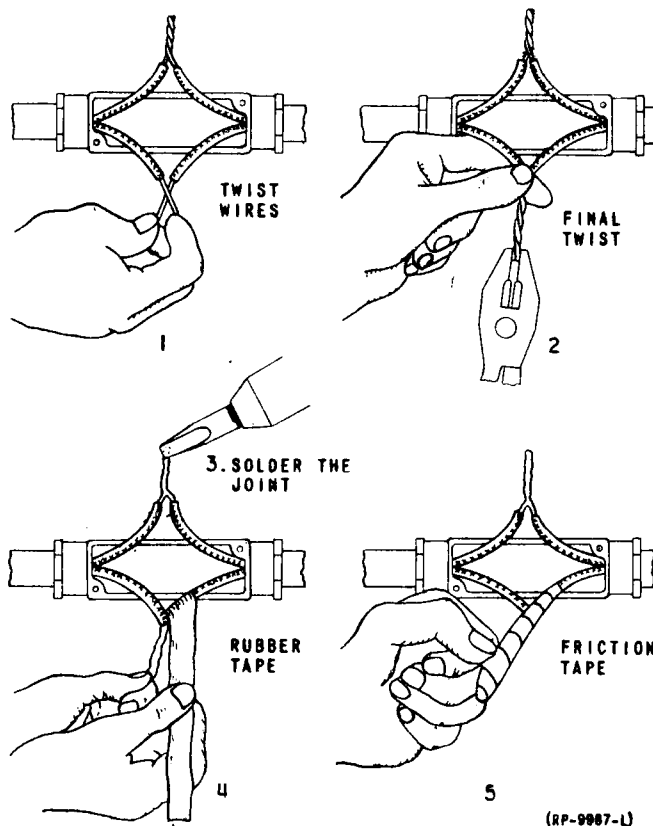

FIG. 5 "PIG-TAIL" SPLICING
6.31 The soldered pig-tail splice, now replaced by a solderless type wire connector, is made with small gauge power wires as shown in Figure 5. It should be used when called for in job papers or on drawings and most frequently used in enclosures, however, it may be exposed such as when sewed into wire forms in which case apply one coat of shellac to the taped portion. This type of splice may be required in receptacle and junction boxes when the solderless type wire connectors are not available or when there is insufficient room for the solderless type.
6.32 Arrange the leads that are to be spliced in any conduit, or box, so that the completed taped splices will fit into the conduit, or box, without having to be forced by the cover when it is screwed into position. This may be done by staggering the splice locations, that is, make the splices in different locations in the box. Proceed as shown in Figure 5 making sure entire splice takes the solder.
6.33 Apply tape as shown in Figure 5 and as described in Paragraph 6.15.